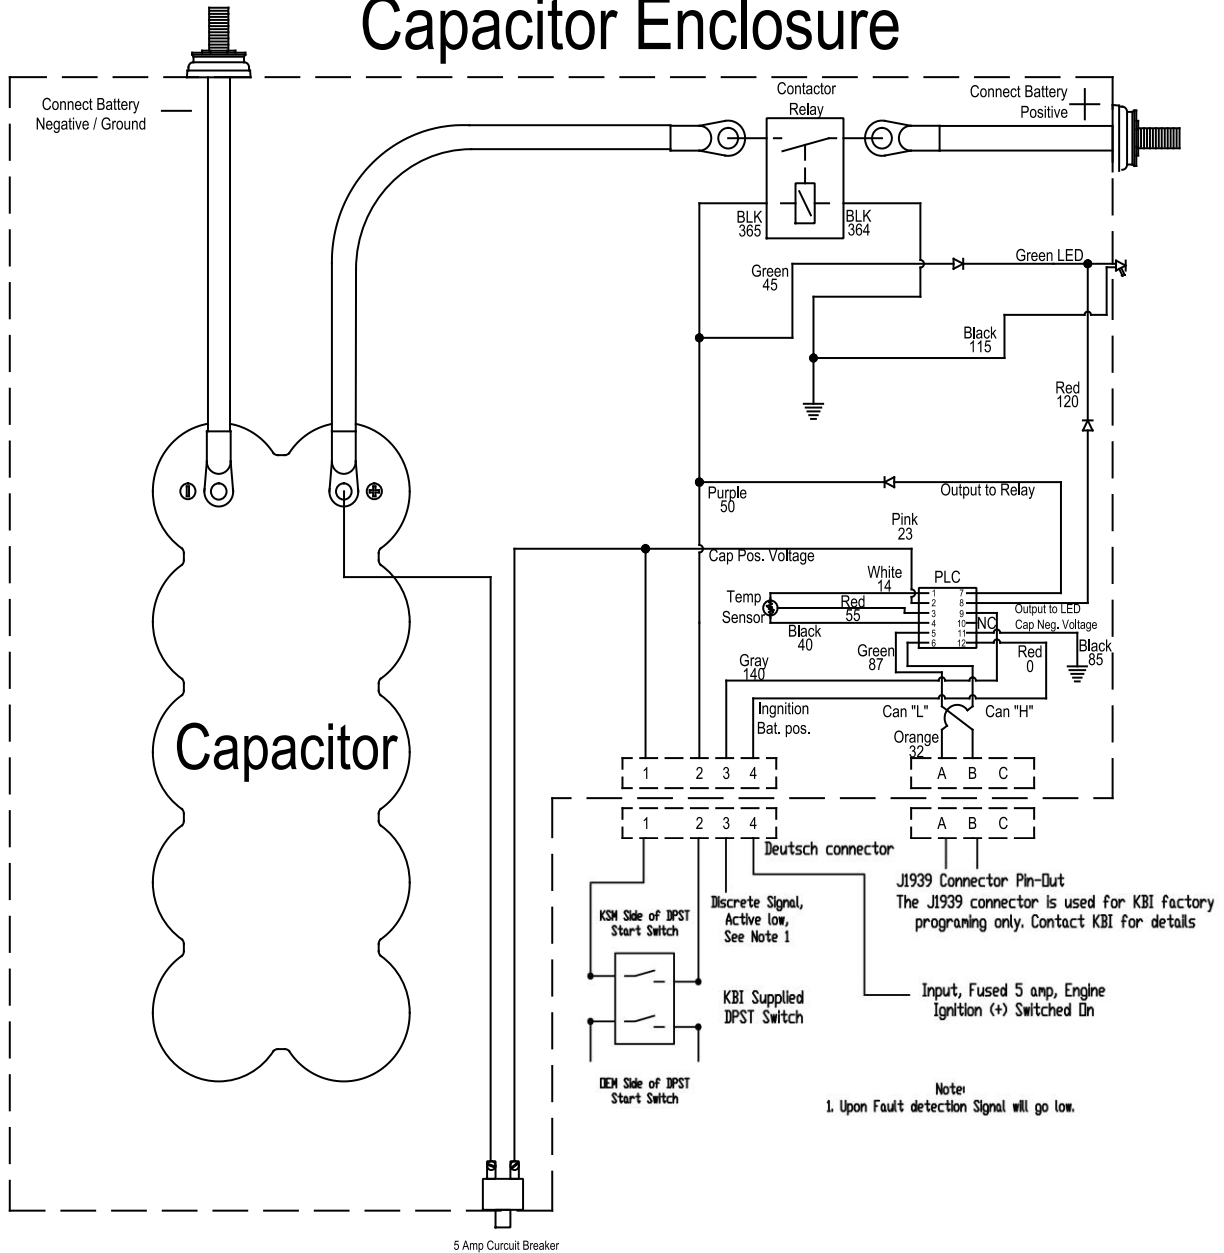

Figure 6: Standard KSM Schematic
Pressing the DPST switch closes the contactor inside the KSM enclosure, using power from the KAPower module, regardless of the state of charge of the vehicle or equipment's batteries. Pressing the DPST switch also engages the cranking motor circuit, just as if the key switch to the crank/start position had been turned, or the vehicle's or vessel's start button (if so equipped) had been pressed. The DPST switch is wired in parallel with the existing starting system. This is done by wiring and using the recommended electrical circuit, displayed on the schematics in Figure 5 (page 14), or Figure 6 (page 16). This creates a parallel circuit with the OEM (Original Equipment Manufacturer) electrical circuit, allowing both the KSM and the OEM cranking motor circuit to be engaged, simultaneously. Once the engine starts, the Programmable Logic Controller (PLC) inside the KSM monitors the condition of the KAPower Module, and will close or open the contactor relay inside the KSM, based on the preprogrammed parameters inside the PLC. When the engine is stopped, the equipment is turned off. The contactor opens and the KAPower module remains isolated, waiting for the next engine-starting event, when the DPST switch is pressed.
3. As based on Figure 5, Figure 6, or Figure 7 create and wire the harnesses to the Deutsch connector. The KSM Deutsch connector has been provided with a mating connector that has pigtail wire leads tagged and identified in order to facilitate installation.
4. For the PLC input, pin four (4) of the wire interface connector, find a 5-amp power source from the vehicle, or vessel “key-on” ignition source that is live positive (+) **only**, when the ignition switch is on, and is capable of delivering up to 5 amps. This can often be sourced at the engine. Install a 5-amp fuse in this circuit within 7-inches of the power source. Use care not to disturb or compromise the engine’s own wiring harness, or connections.
5. Wire the DPST switch, and find and wire the appropriate PLC input (pin 4) as based and depicted on Figure 5, Figure 6, or Figure 7. Do not connect any wiring to the J1939 Connector. *The J1939 CAN-Bus is used for KBI Factory programming only. Contact KBI for details.*
2. This LED is also an indicator for how the KSM is functioning. The LED is connected in parallel with the contactor, and is also connected to an output on the PLC as shown in the Figure 6 and Figure 7. The PLC monitors the capacitor voltage during, and after, the recharge cycle. If the capacitor voltage drops below an acceptable level in the first 5 minutes after the recharge, the LED will flash, indicating a fault. If at any time while the PLC is powered up and the KSM Circuit Breaker trips or the capacitor voltage level drops below 6-volts (on a 12-volt unit) or 12-volts (on a 24-volt unit), the LED will flash in a sequence that indicates the fault, see Table 2.
1. If the wiring and harnesses are in good order, continue troubleshooting by unplugging the Deutsch connector on the end-faceplate of the KSM, providing access to the pin terminals on the KSM connector. Refer Figure 5, Figure 6, and Figure 7.